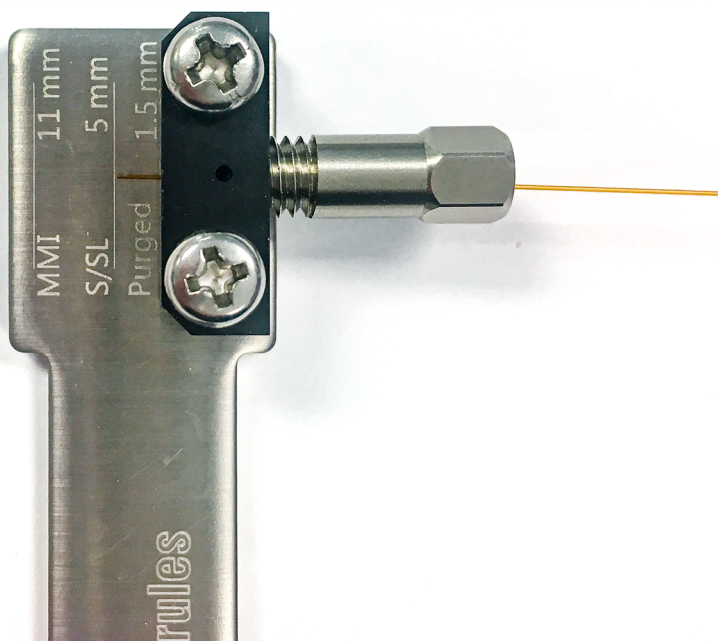

Figure 16. Thread the column nut onto the swaging tool
4. Loosely thread the column nut into the swaging tool until you start to feel resistance. The column should still slide freely. See Figure 16.